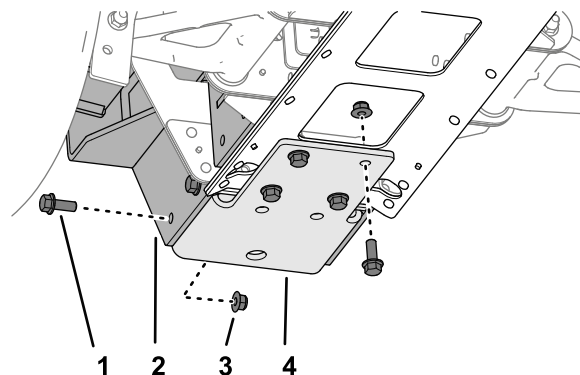
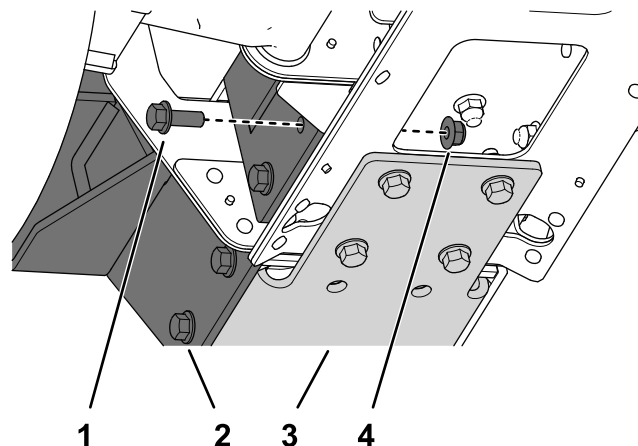
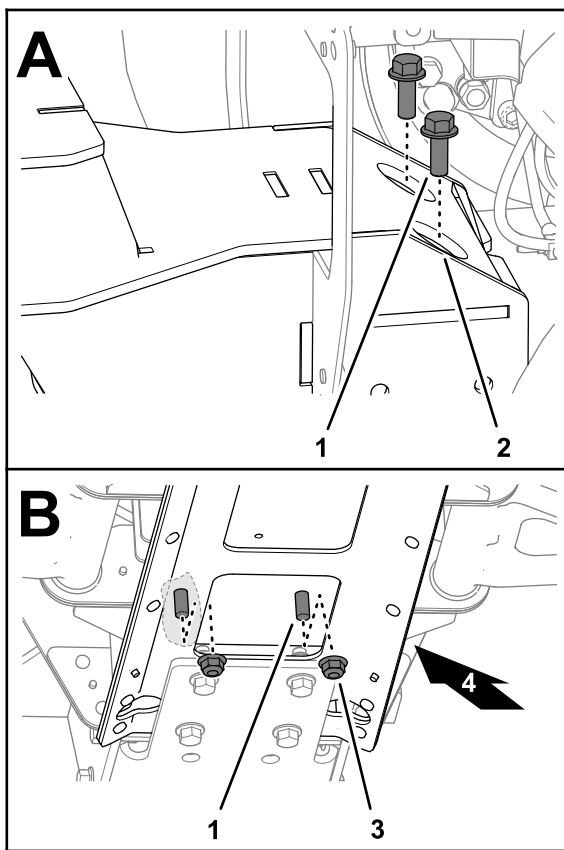

Figure 57
Figure 58
Figure 59
1. Assemble the ball-picker mount and the bottom bracket to the front frame channel and center-channel plate (Figure 57, Figure 58, and Figure 59) with 14 flange bolts (3/8 x 1 inch) and 14 flange locknuts (3/8 inch).